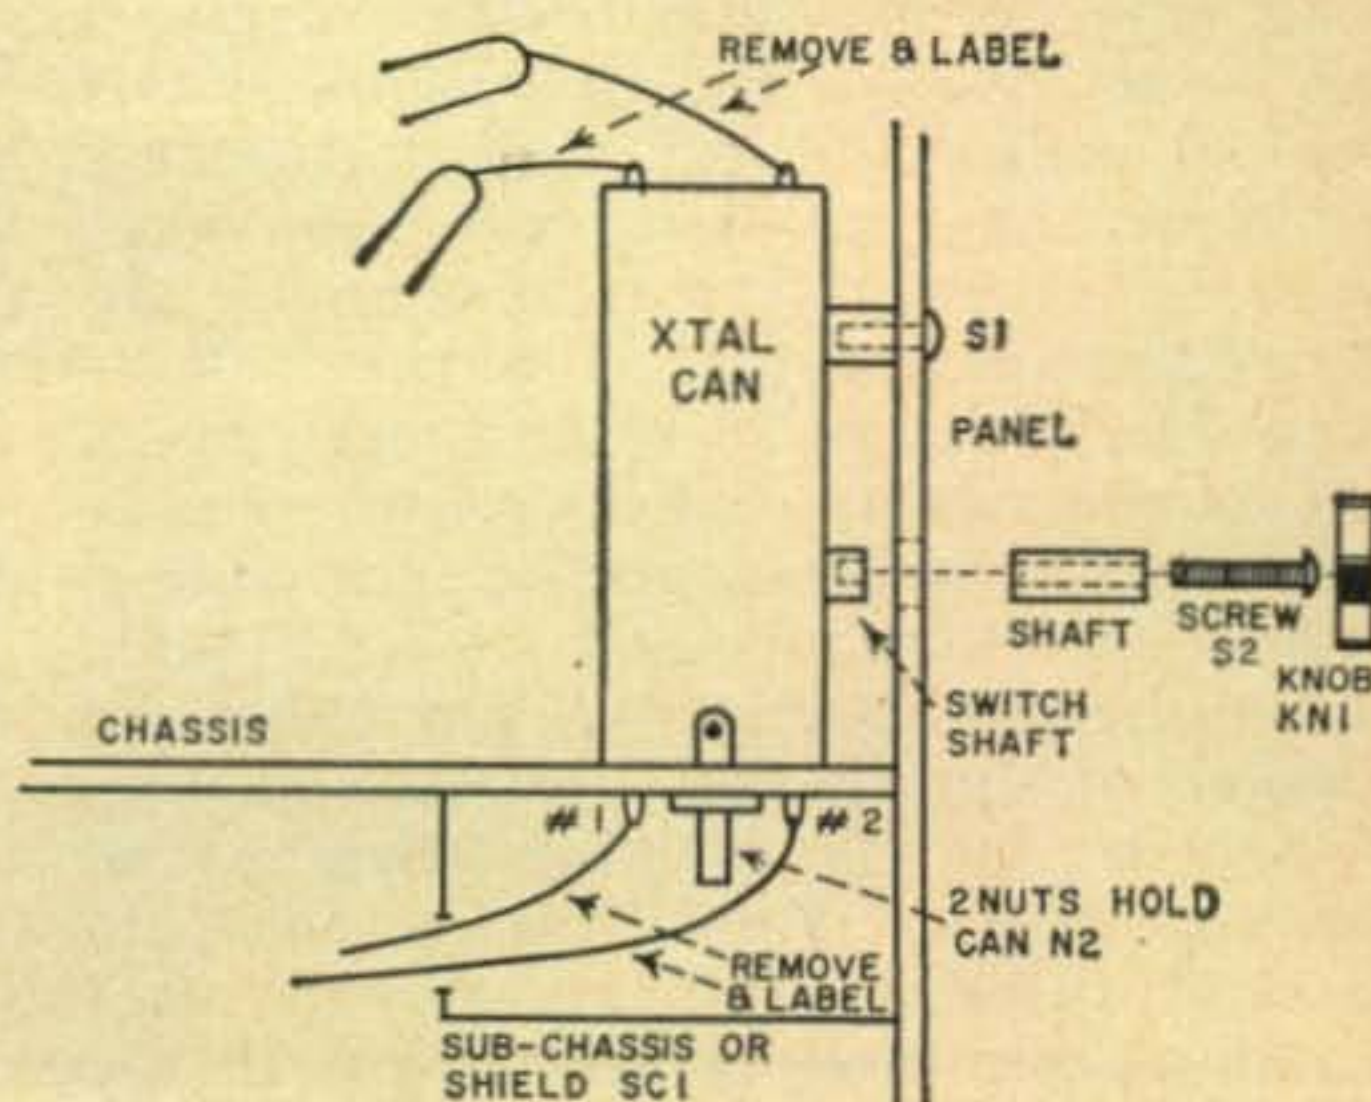

Fig. 2—Cross section view of the crystal filter.
- () Remove S1 shown in fig. 2